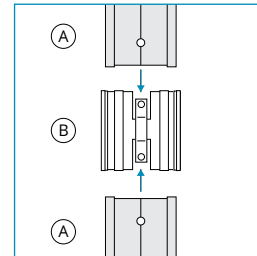

Figure 1
1. Lay out Rail pieces (A).
2. Join Rail (A) pieces together by sliding a Rail to Rail Connector (B) onto the end of one Rail. Then slide second Rail piece into the other side of the Rail to Rail Connector (Figure 1). These pieces fit tightly. If needed, use a rubber mallet to fully seat Connector (B) onto Rail (A).